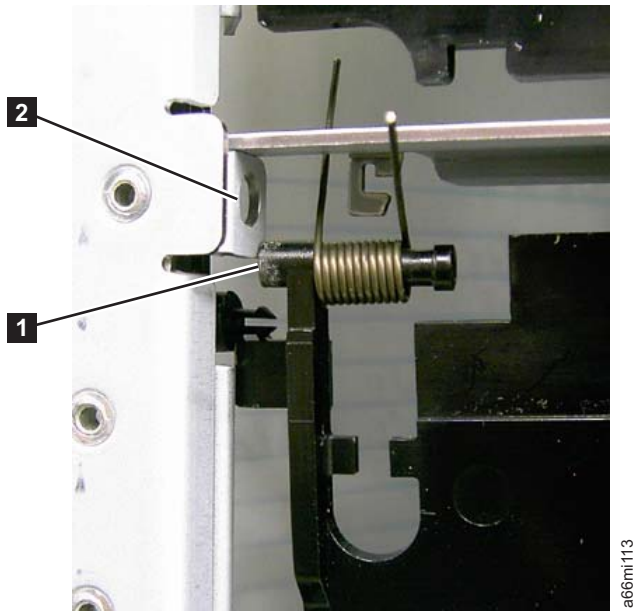

Figure 8-32. I/O Safety Flap Pivot Pin, Removed
6. Move the bottom flap to the right to remove the pivot pin (**1** in Figure 8-32 on page 8-33) from the pivot hole (**1** in Figure 8-32 on page 8-33). The bottom flap can now be removed from the library.